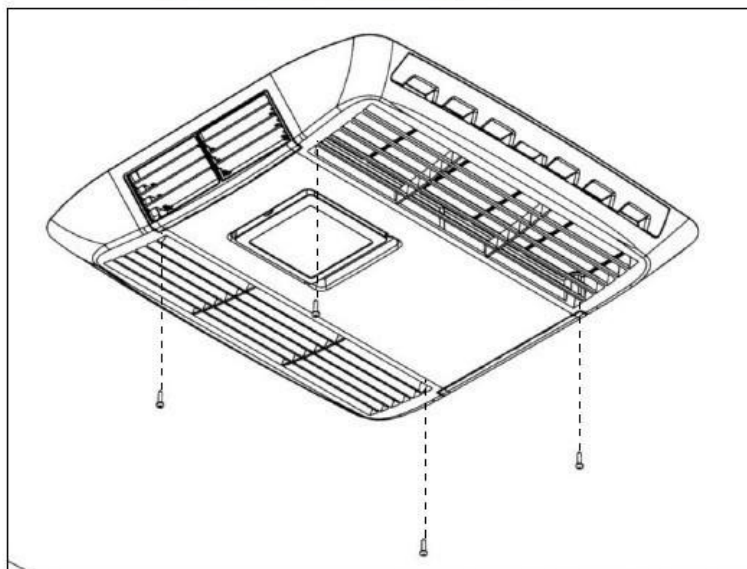

Fig 15: Secure the main plenum cover to the duct assembly with the four screws provided
- Secure the main plenum cover to the duct assembly with the 4 screws provided (Fig 15).